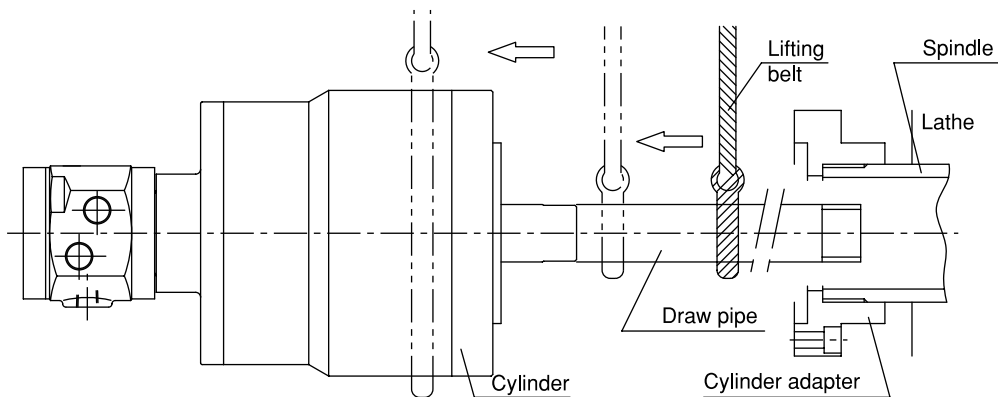

Fig.12
- When removing/installing the cylinder, use a lifting belt and perform as follows. (Fig.12)